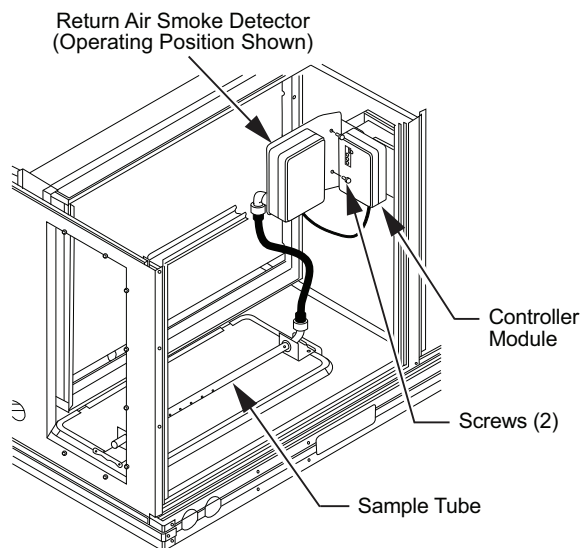

Fig. 59 — Return Air Smoke Detector Operating Position
3. Rotate the detector plate so the sensor is facing outwards and the sampling tube connection is on the bottom. (See Fig. 59.)